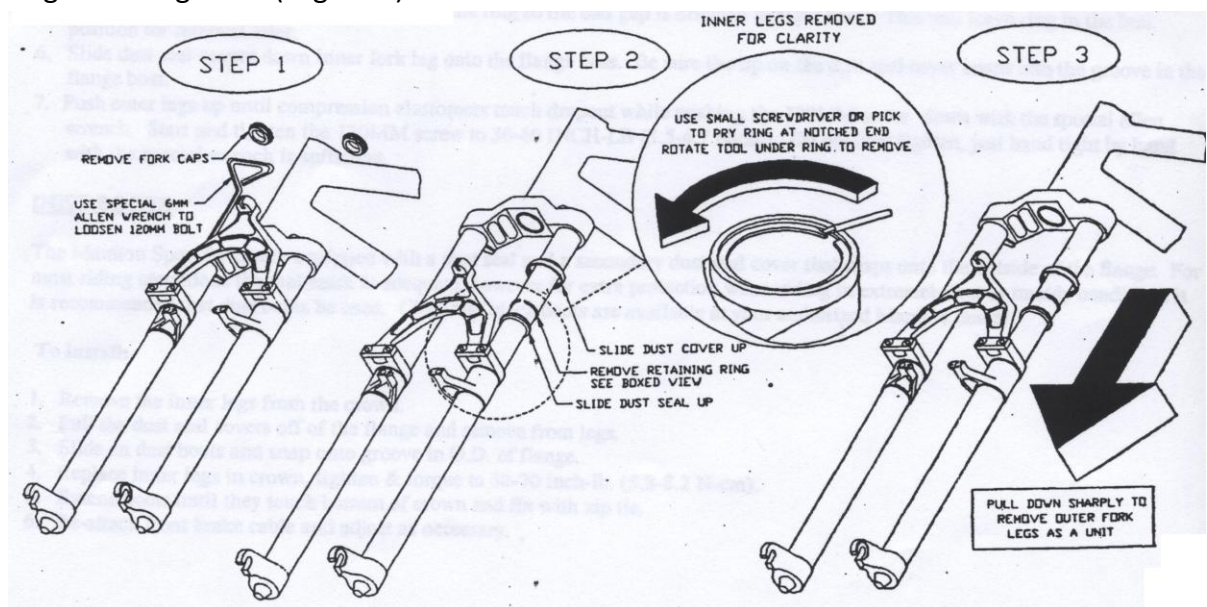

Figure 1
12. If applicable, press retianing ring into the groove above the dust wiper seal by starting the wide end into the flange groove. Pushing down with a screwdriver rotate to feed ring into the groove.(Figure 1)